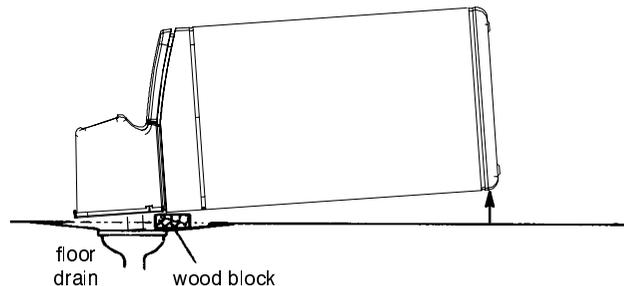

Figure 15
7. Looking at Figure 15, lay a piece of 2 inch thick board near the floor drain. Move the softener close to the drain. SLOWLY and CAREFULLY, tip it over until the rim rests on the wood block with the inlet and outlet over the drain. Do not allow the softener's weight to rest on the inlet and outlet fittings or they will break.